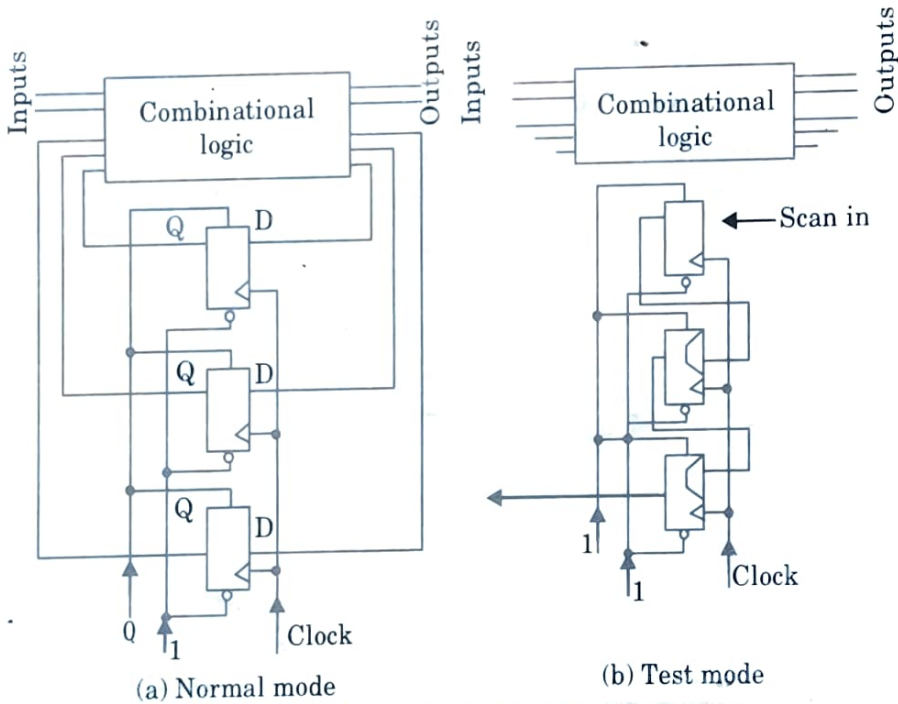

Fig. 5.13.2. Sequential circuit showing normal and test mode configurations.
6. The configuration associated with each basic mode is set out in Fig. 5.13.2(a) and Fig. 5.13.2(b) normal and test mode respectively.